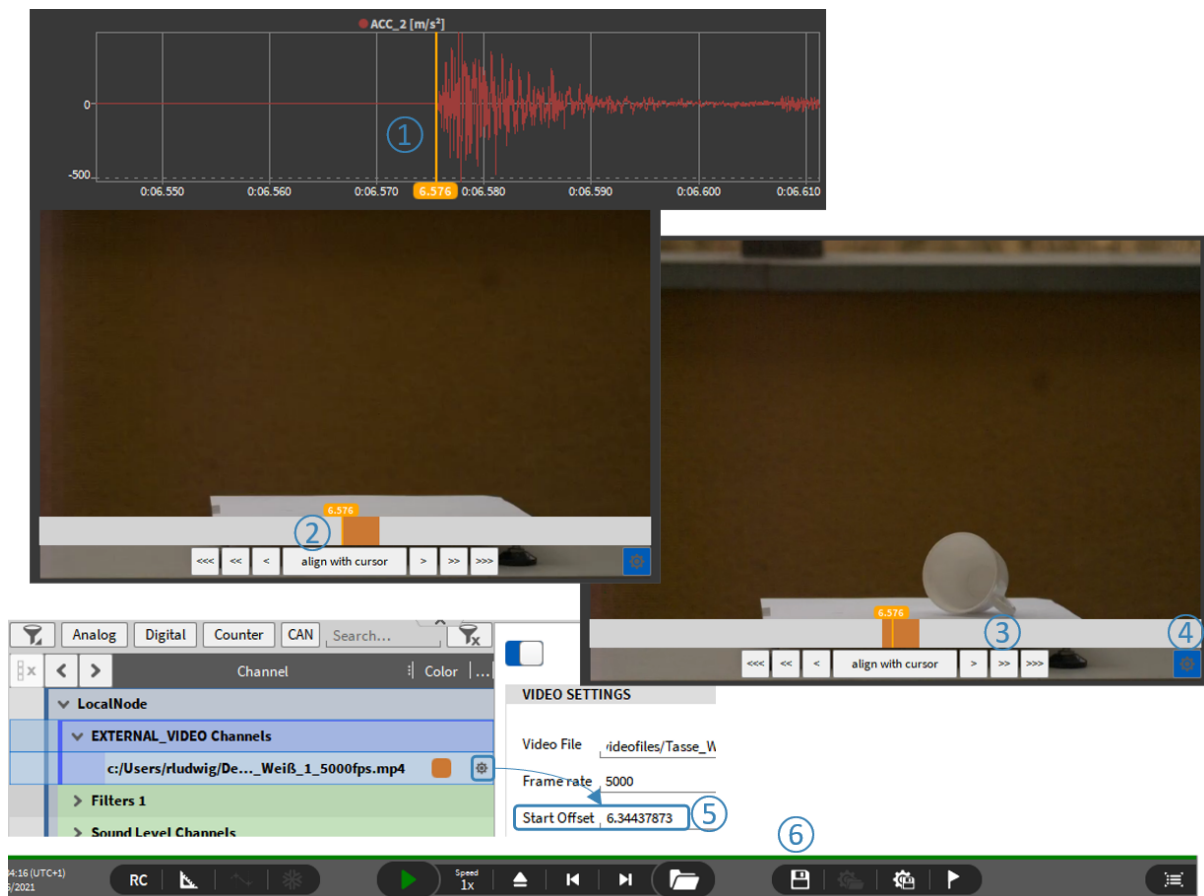

Fig. 7.166: Alignment of sensor and video data
1. Use the Recorder to move the orange cursor to the reference event for data synchronization (see ① in Fig. 7.166)
2. Press *align with cursor* to move the video start to the orange cursor position for a rough time adjustment (see ② in Fig. 7.166)
3. For fine time adjustments, use the <<<, <<, < & >, >>, >>> buttons to align the timeline (see ③ in Fig. 7.166)
4. When finished, the timebar can be hidden (see ④ in Fig. 7.166)
5. The absolute time offset can also be seen in the video's channel setup (see ⑤ in Fig. 7.166)
6. The settings can be saved to the data file (see ⑥ in Fig. 7.166)